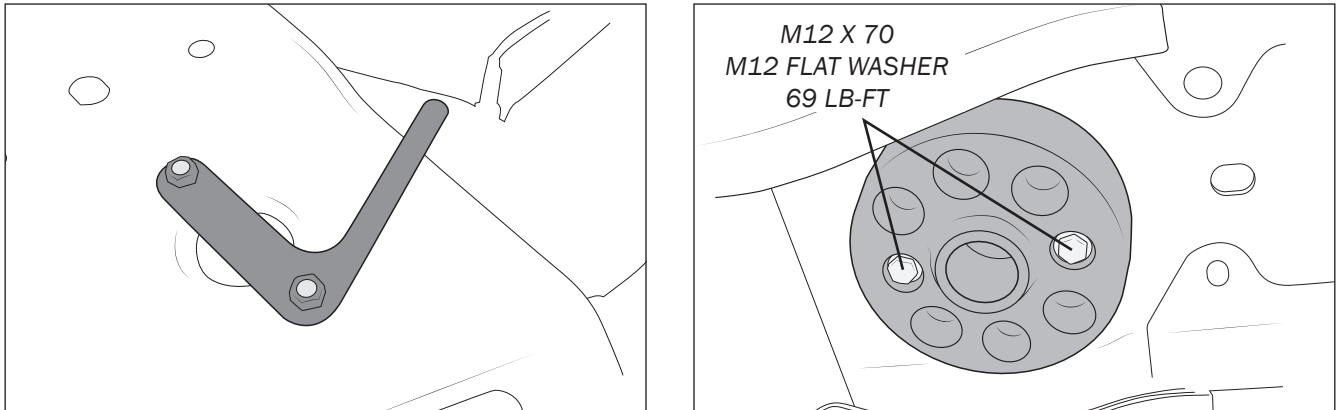

Figure 12 – Left: Tabbed nut-plate, Right: AEV Coil Spacer
5. Install AEV coil spring spacers with supplied hardware and nut plate (fig. 12).